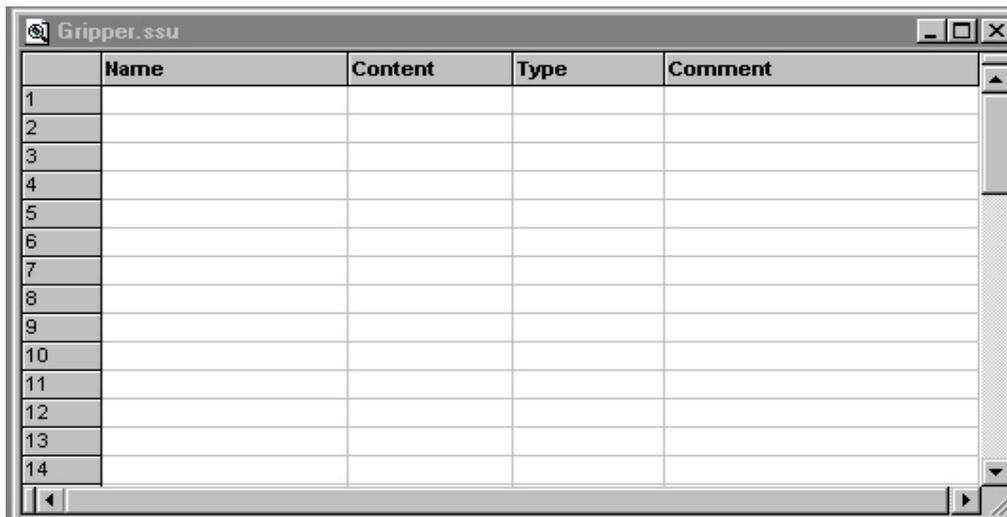

Figure 3
- This opens the setup editor (see fig. 3) which resembles the symbol editor and is similar to use. The following columns are available: